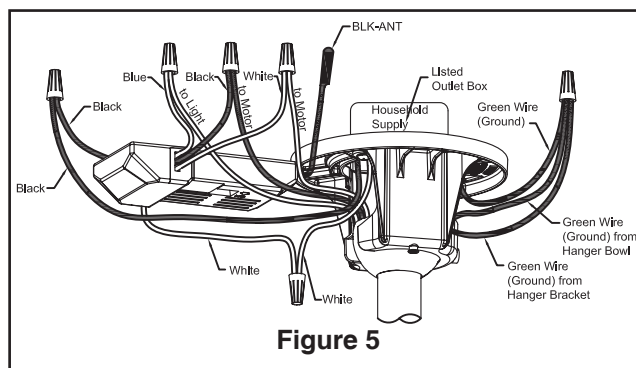

Figure 5
- 5. Route wires through Motor Coupling Cover, Canopy Screw Cover and Ceiling Canopy. (Figure 5)
- 4. Connect green wires from hanger bracket an hanger ball to bare (ground) wire using wire connector supplied. Connect black wire from receiver unit marked "AC IN L" to black supply wire using wire connector supplied. Connect white wire from receiver unit marked "AC IN N" to white supply wire using wire connector supplied. Connect white wire from receiver unit marked "TO MOTOR N" to white wire from fan using wire connector supplied with receiver. Connect black wire from receiver unit marked "TO MOTOR L" to black wire from fan using wire connector supplied. Lastly, connect blue wire from receiver to the blue fan light wire using wire connector supplied. Position all connected wires and receiver antenna to allow installation of ceiling canopy (Figure 5).
- 5. After splicing and making the wire connections, the wires should be spread apart and turned upward with the grounded conductor and the equipment-grounding conductor on one side of the outlet box and the ungrounded conductor on the other side of the outlet box. (Figure 5)
- 5.** If airflow is desired in the opposite direction, turn the fan off and wait for the blades to stop turning. Slide the reverse switch on top of motor assembly to the opposite position and turn fan on again. (Figure 5)